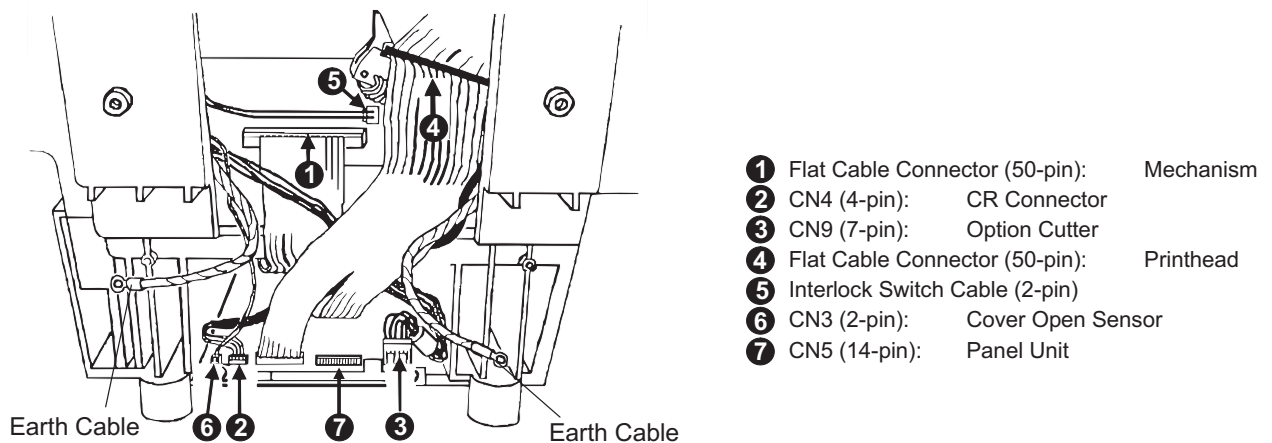

Figure 3-41. Connector Removal (left side)
Step 3: Remove the two CBS (O) (M4x8) screws securing the green and yellow earth cables to the grounding plate. Then disconnect connectors (1) through (4) as shown in Figure 3-41. (Ensure all connectors (1) through (7) indicated in the figure are disconnected.)
When you install the printer mechanism, route the cables as shown in Figures 3-41 and 3-42. Make sure the cables do not get caught between the printer mechanism and lower case.